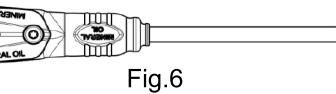

Fig.6
- ⑦ Install the rubber boot to finish the assembling process (Fig.6)
- ⑧ Checking methods after assembling:
- (1) Ensure that the tightening torque of the flare nut is 70-90kgf-cm.
- (2) Operate the brake lever 4-5 times until it feels back to normal.
- (3) Depress the brake lever using about 6kg force and hold it for 30 seconds to check whether there is oil leak at the connection port and whether the reach distance is less than 1.5 fingers.
- (4) If there occurs oil leakage at the connection port, please refer to the "I Series Assembly Instruction" manual and re-conduct the assembly process
- (5) If the distance between brake lever and handle bar is less than 1.5 fingers, please add more oil to get it back to normal stiffness following the instructions in the manual.